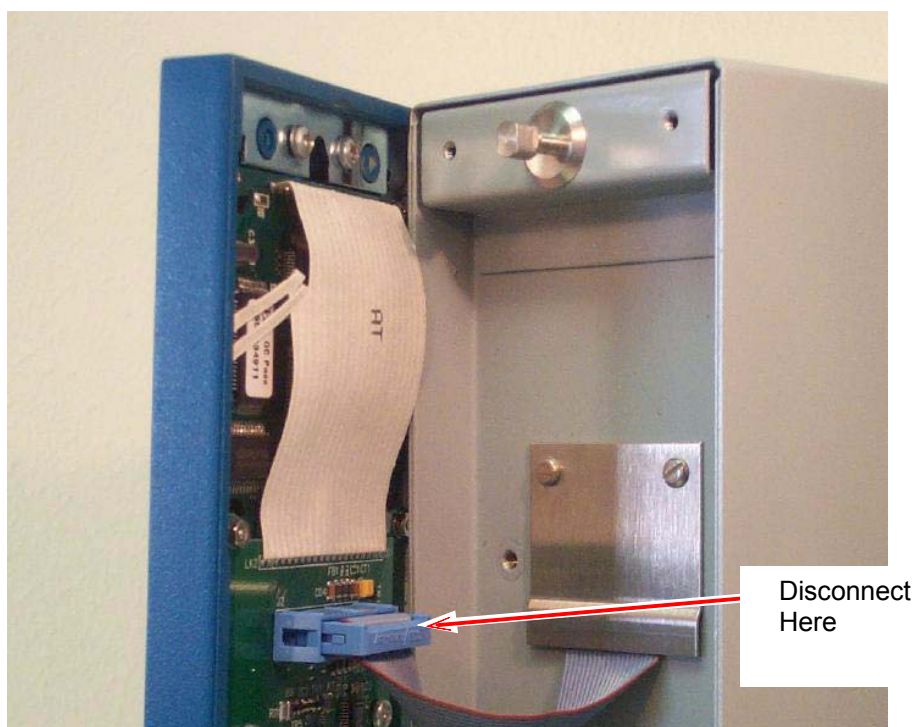

Figure 2-4. Remove Connector
4. Disconnect the ribbon cable from the back of the front panel at the blue connector (refer to Figure 2-4). Observe the orientation of the connector with its mating keyway. You must correctly re-insert the ribbon cable at the end of the installation process.